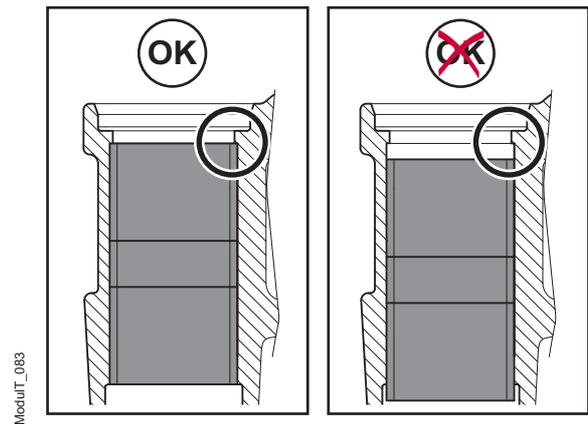

Figure 60. Leading side bearings installed OK/NOK
- Stop once the bearings are seated in the correct position up to the inside lip of the bearing location surface, see figure 60.